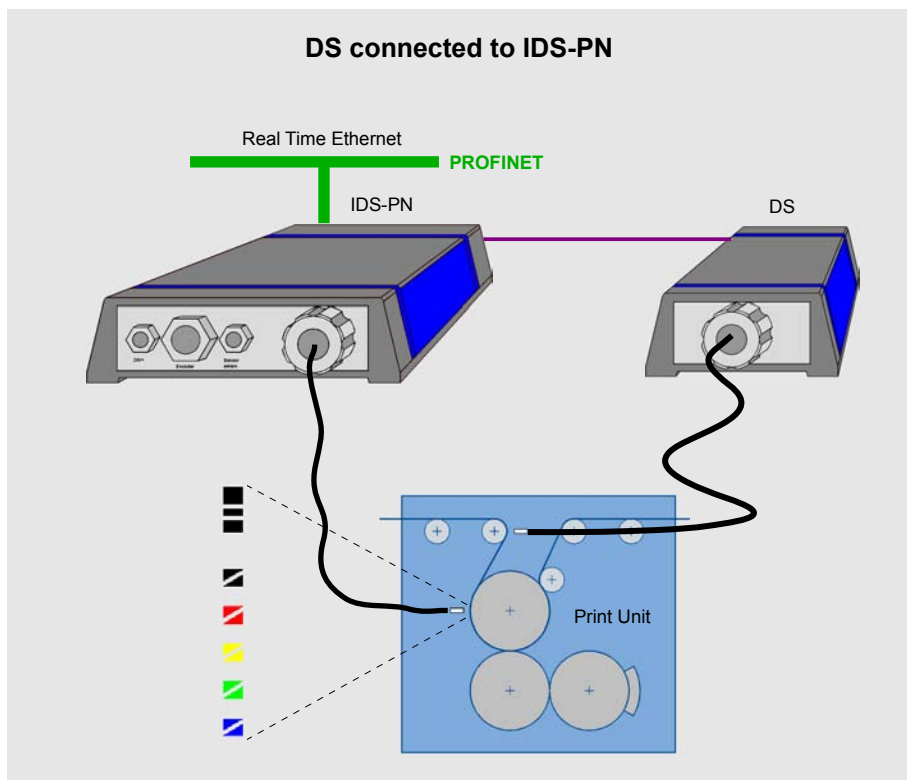

Figure 1.1: Overview DS and IDS-PN
The (DS) is connected to the IDS-PN as additional sensor for extended tasks of print mark detection (mostly referred to as Sensor 2), see fig. 1.1. Therefore the interface "IDS-PN" of the DS is connected to the interface "Sensor extern" of the IDS-PN.